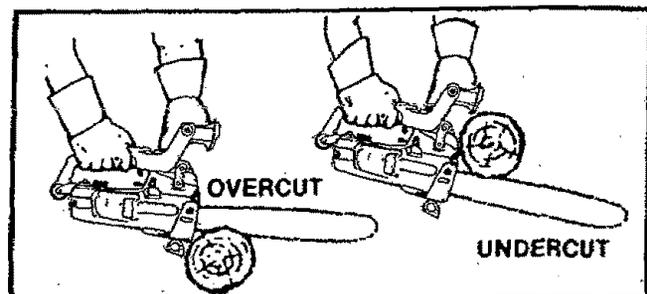

Figure 28
2. TYPES OF CUTTING USED Figure 28.